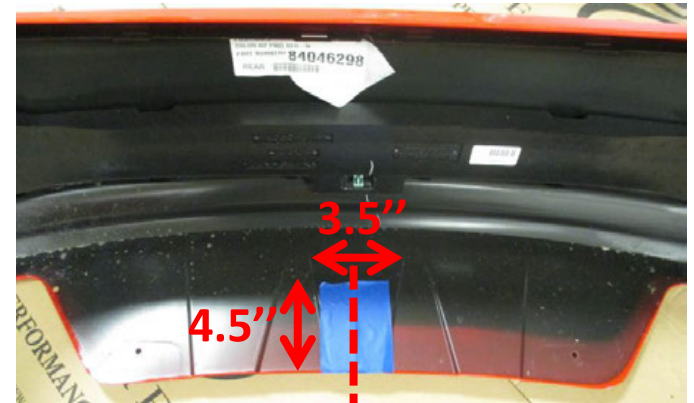

Figure 3
- Bottom fascia trimming** – locate the center of bottom panel and trim 4.5" tall by 3.5" wide area, see **Figure 3**.
5. Bottom fascia trimming – locate the center of bottom panel and trim 4.5" tall by 3.5" wide area, see Figure 3.